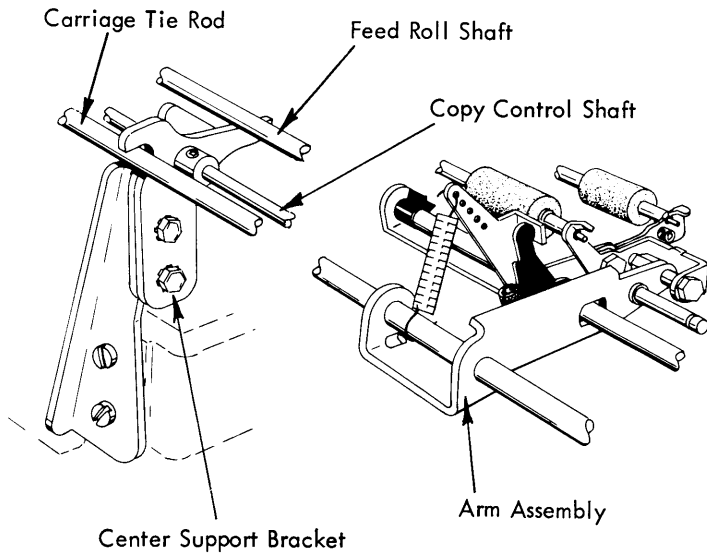

FIGURE 180. Center Support Bracket
- b. New Style Paper Feed Mechanism - With the feed roll tension springs disconnected, the center support bracket (Fig. 180) should be positioned so that the forward lug just touches the underside of the feed roll shaft while the rear lug just touches the top of the carriage tie rod. The center support bracket should not bow the copy control shaft.
- b. New Style - The right hand front feed roll arm assembly on the 721 and the left and right hand front feed roll arm assemblies on the 723 and 725 should be adjusted to give end play to the feed roll shafts that will not permit them to contact the sides of the openings in the deflector but will permit them to roll freely (Fig. 180).